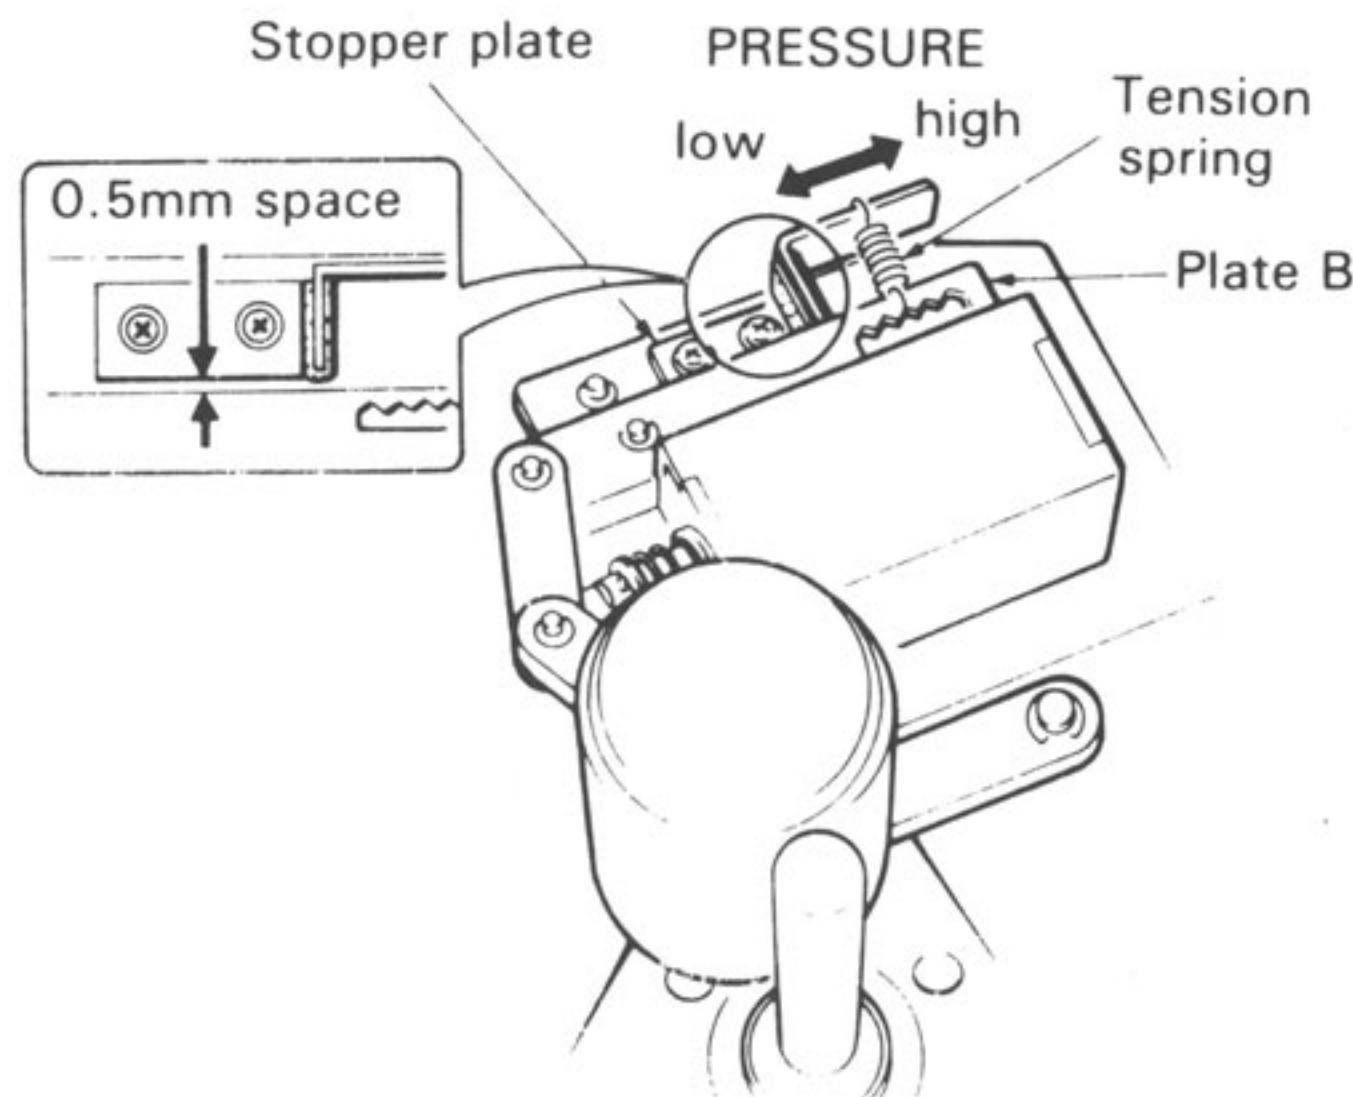

Figure 6-14. Tension Spring Adjustment
- STEP 6.** If the pinch roller pressure is not between 2.7 kg and 3.0 kg, then adjust the tension spring in the appropriate direction as shown in Figure 6-14, and return to STEP 4.
- STEP 7.** In Play mode, ensure that a space of approximately .5mm still exists between the stopper plate and plate B, as shown in Figure 6-14. If not, loosen the two 3x6 screws on the stopper plate and move the plate accordingly, and return to STEP 4.